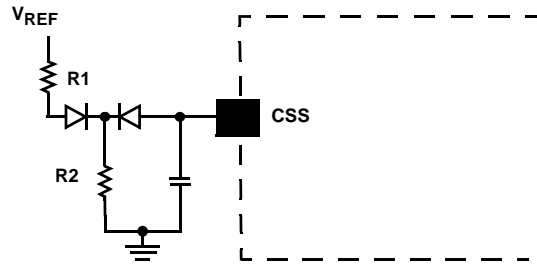

FIGURE 4. REFERENCE-BASED CLAMP CIRCUIT
- Per Equation 3, the clamping voltage is a function of the charge current I_{ss} . For a more predictable clamping voltage, the CSS pin can be connected to a reference based clamp circuit, as shown in Figure 4. To make the V_{clamp} less dependent on the soft-start current (I_{ss}), the currents flowing through R1 and R2 should be scaled much greater than I_{ss} . The relationship of this circuit can be found in Equation 4.